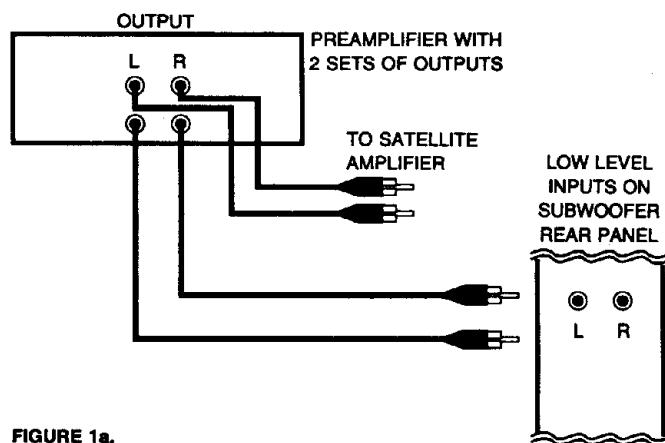

FIGURE 1a.
1. The subwoofer may be fed by a signal taken directly from the audio outputs of your preamplifier. If your preamplifier has two sets of outputs, the installation will be relatively simple. If your preamplifier has only one set of outputs, it will be necessary to use a "Y" connector with shielded leads going to your power amplifier and another set going to the subwoofer. Although this method will yield satisfactory results, it is not preferred. These two installation possibilities are shown in Figure 1a and Figure 1b.